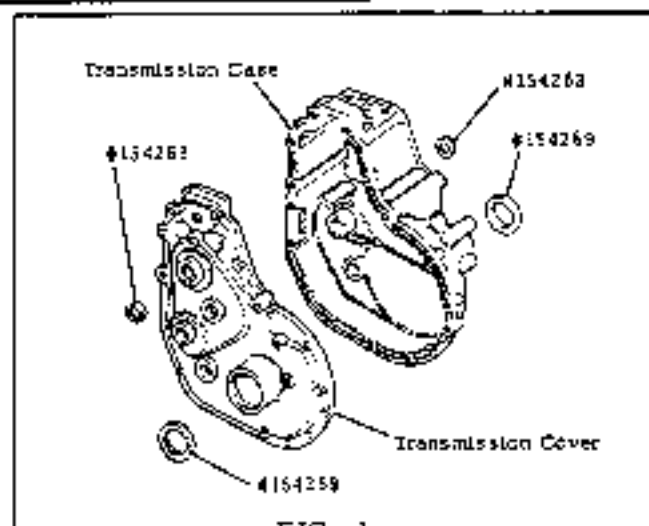

FIG. 1
1. Make sure that the seal is correct size. See Fig. 1, for correct location.